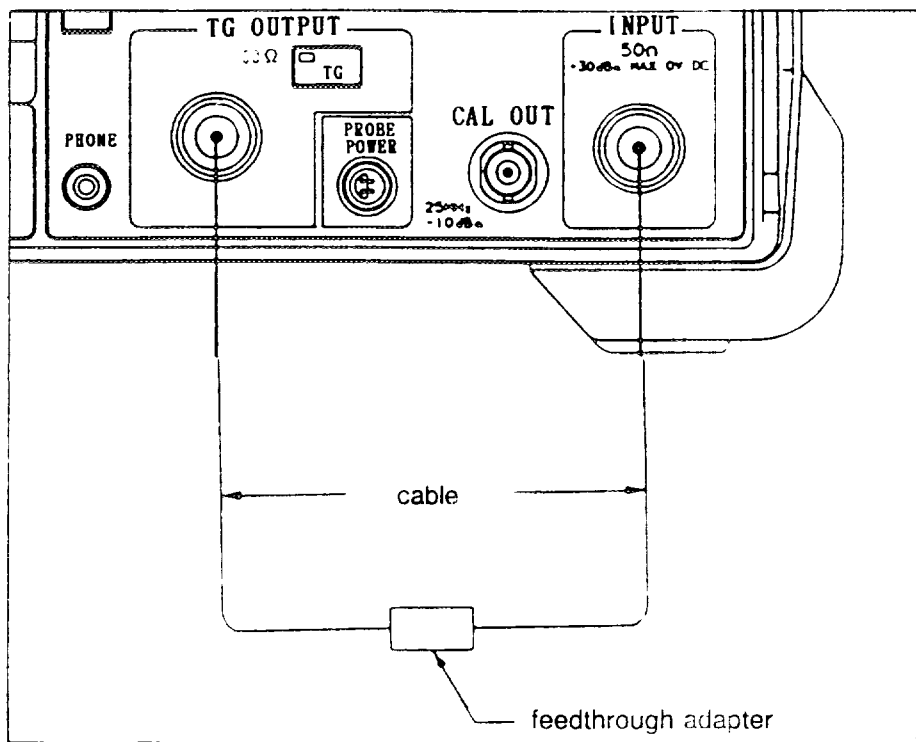

Figure 4-20 Connecting with Through State
- ③ Set up the test cables and feedthrough adapter as shown below in Figure 4-20.